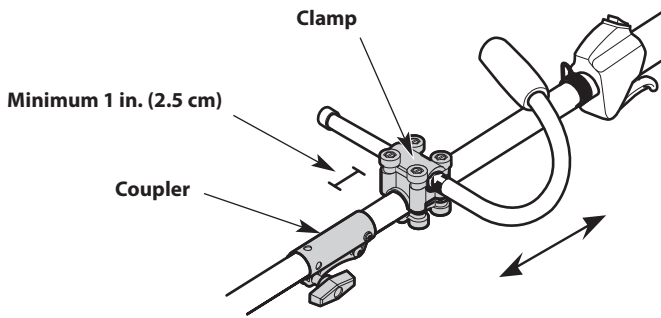

Fig. 5
5. Hold the unit in the operating position (Fig. 13). Move the clamp up or down the upper shaft housing to a comfortable location. Make sure the clamp is positioned at least 1 in. (2.5 cm) away from the coupler (Fig. 5).